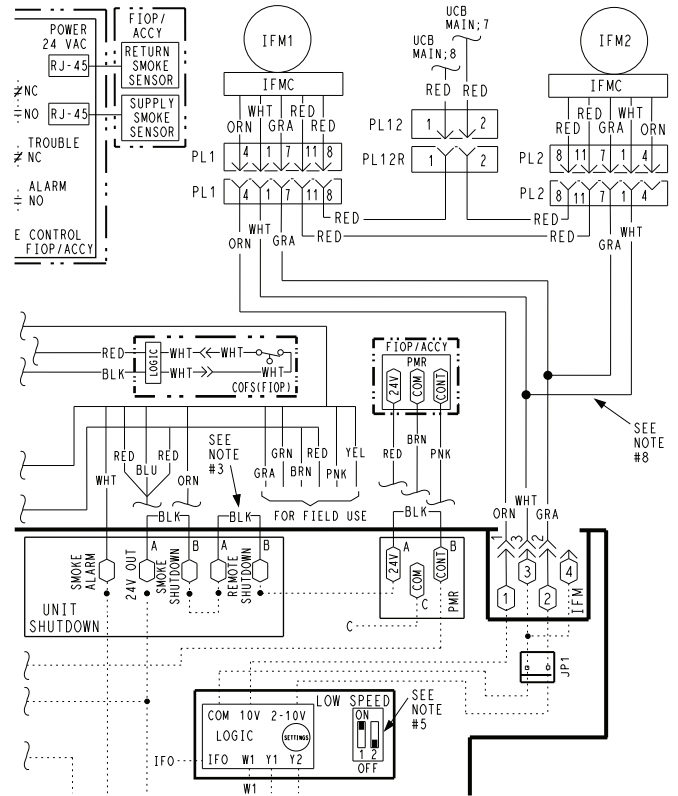

Fig. 9 — Supply Fan Control Wiring Diagram
8. Check for proper motor control voltage signal of 9.7 vdc to 10.3 vdc at IFM-1 and IFM-3 on Unit Control Board (UCB). See Fig. 9.